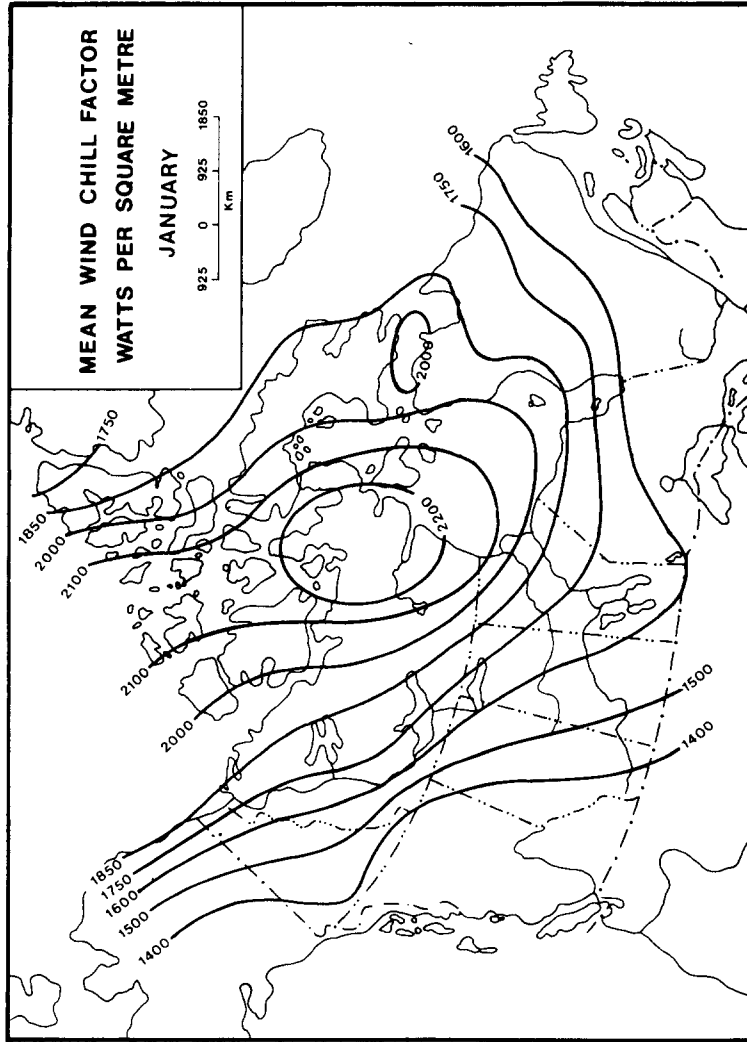

Figure 2-1 Mean windchill Factor in January
12. Windchill - Windchill is the term applied to the cooling power of the atmosphere on a surface having a temperature like that of the human skin. It is a function of windspeed as well as temperature, and is expressed in watts per square metre. By using temperature and windspeed as coordinates, both on linear scales, a graph can be drawn called a "chillgram". (See Table 2-1). The frost-bite line on such a graph is 1625. In the subarctic, trees and scrub will, in practice, decrease the windchill factor. Windchill is discussed in more details in Part 1 of this manual. Figures 2-1 and 2-2 contain the mean windchill factors for January and July.